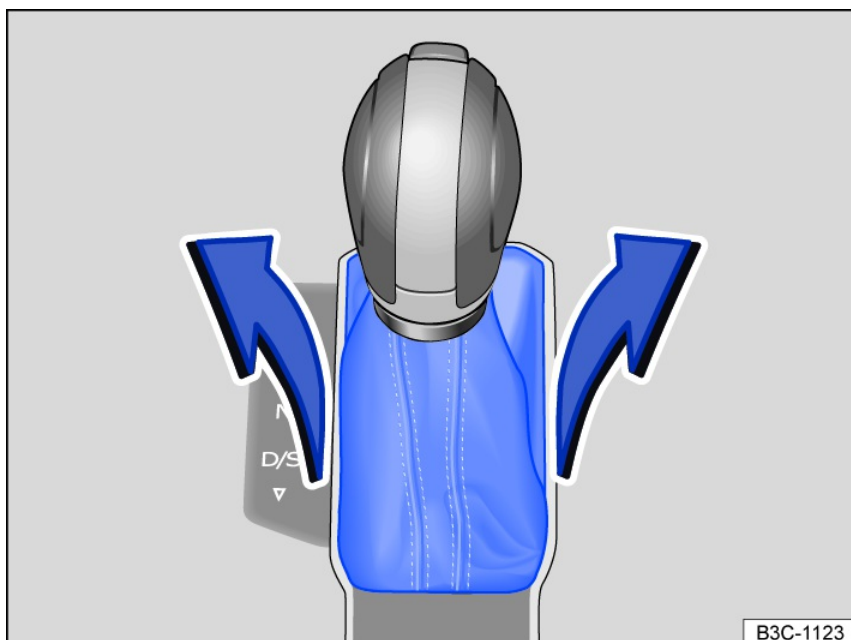

Fig. 117 Remove the cover on the shift gate.
- Pull the cover near the selector lever boot upward carefully with the wires connected *fig. 117*.